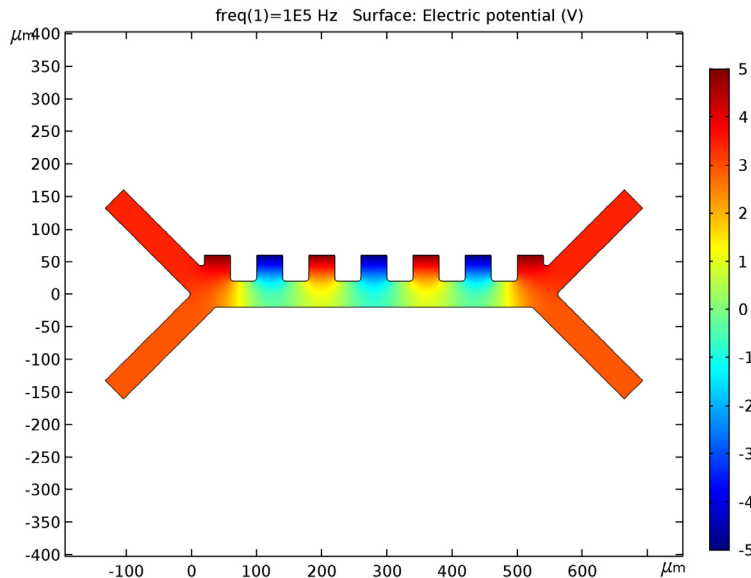

Figure 2: Spatial variation of the electric potential in the microfluidic channel.
- 4 On the **Relative Error** toolbar, click **Plot**. The plot should look like Figure 2.
Figure 2 shows the electric potential in the microfluidic device. When no dielectrophoretic force is applied, the red blood cells and platelets follow the same path and exit through the same outlet, as shown in Figure 3. When the dielectrophoretic force is applied, the two species are separated due to the differences in their dielectric properties, as shown in Figure 4.